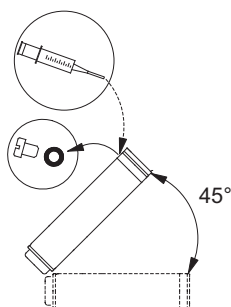

Fig. 4 Motor position during filling - MS 6000
- If the motor is delivered from stock, the liquid level must be checked before the motor is installed. See fig. 4.
- In the case of service, the liquid level must be checked. See fig. 4.
1. Position the submersible motor as shown in fig. 4. The filling screw must be at the highest point of the motor.
3. Inject liquid into the motor with the filling syringe (fig. 4) until the liquid runs back out of the filling hole.